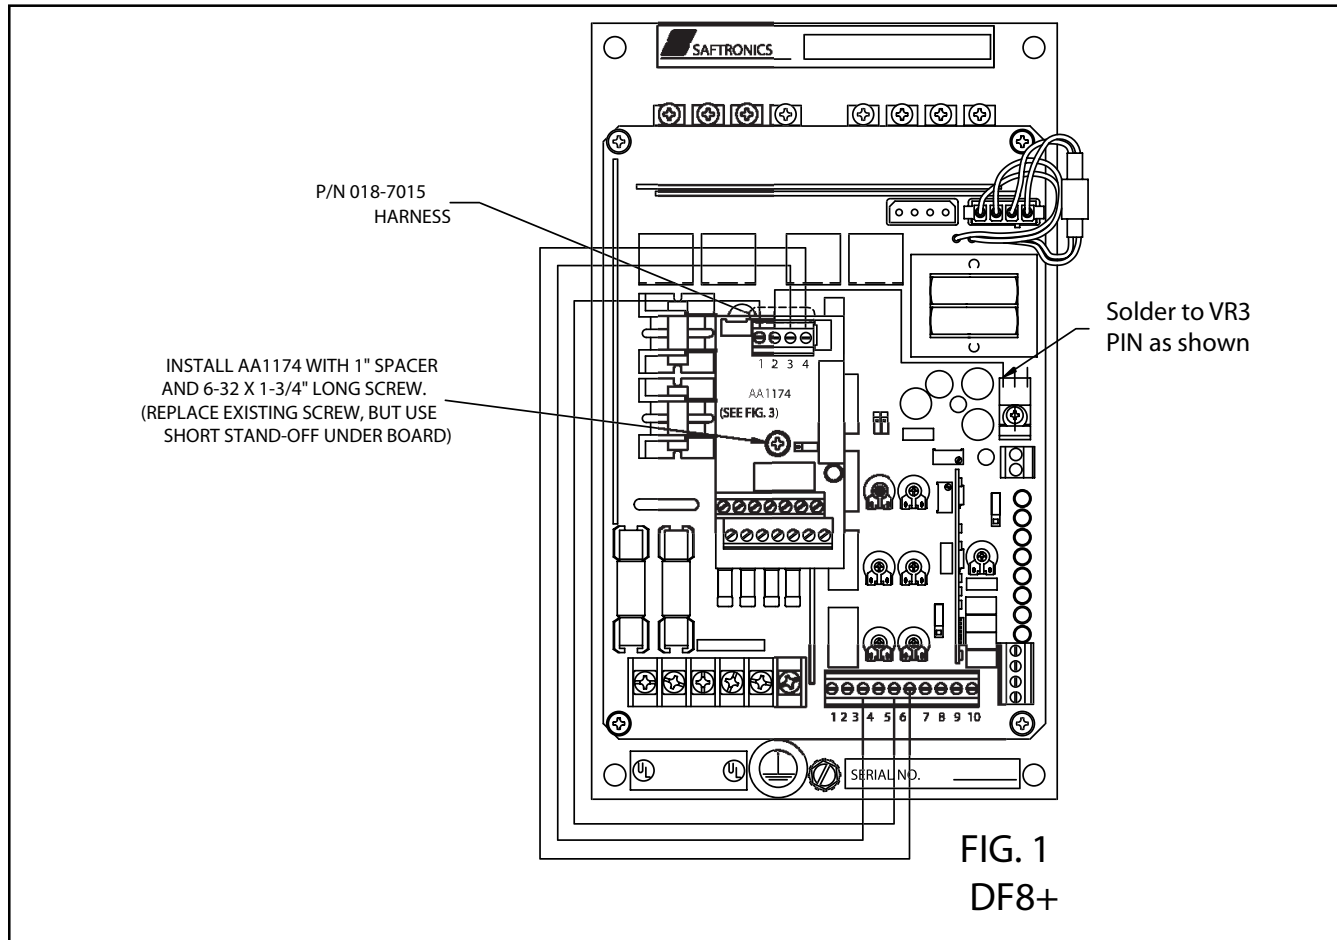

FIG. 1
Power down controller and proceed as follows. Referring to Fig. 1, 2 & 3, using the appropriate kit (see Table 1), install the AA1174 module using the provided hardware and wiring harness*. For the DG2+ C or N, the harness includes a 22 Ohm 1 Watt resistor (see Fig. 2). Place jumper J2 on the AA1174 in the proper position, pins 1 & 2 for input voltage operation or pins 2 & 3 for 4-20mA. In NEMA 4 kits (DF8+N & DG2+N), a manual/auto switch is included and may be mounted through the front cover and wired accordingly.
***Note - When installing the harness on the DF8+ (Fig. 1), the wire from terminal 2 on the AA1174 must be soldered to the left most PIN of the VR3 regulator. Use extreme caution not to damage any components and use the appropriate soldering temp.**
- 2) Apply power to the drive (with motor disconnected) and adjust RV1 (offset) (see Fig. 1 or 2) so that the voltage between J3-1 (Vout) and J3-3 (IGND) reads 0 Volts DC.